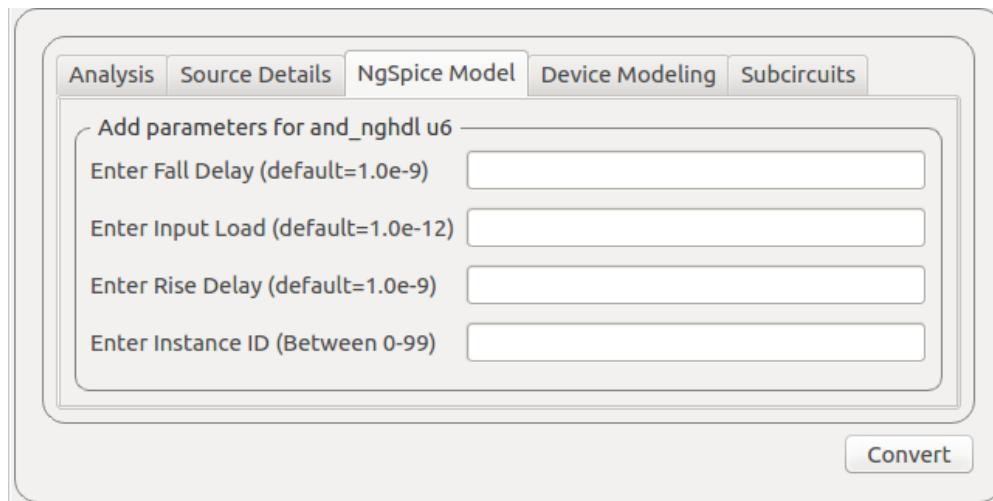

Figure 10.15: Model Parameters
7. Now select the option **Ngspice Model**, window as shown in Fig. 10.15 will appear. The values of the parameters listed can be changed per user's requirement. If you have used any semiconductor devices and Subcircuits in your design, then please specify the Spice models and subcircuits in the **Device Modeling** and **Subcircuits** tabs of the **KiCad-to-Ngspice converter** window. After that click on **Convert** button. This step will create the simulation compatible netlist.